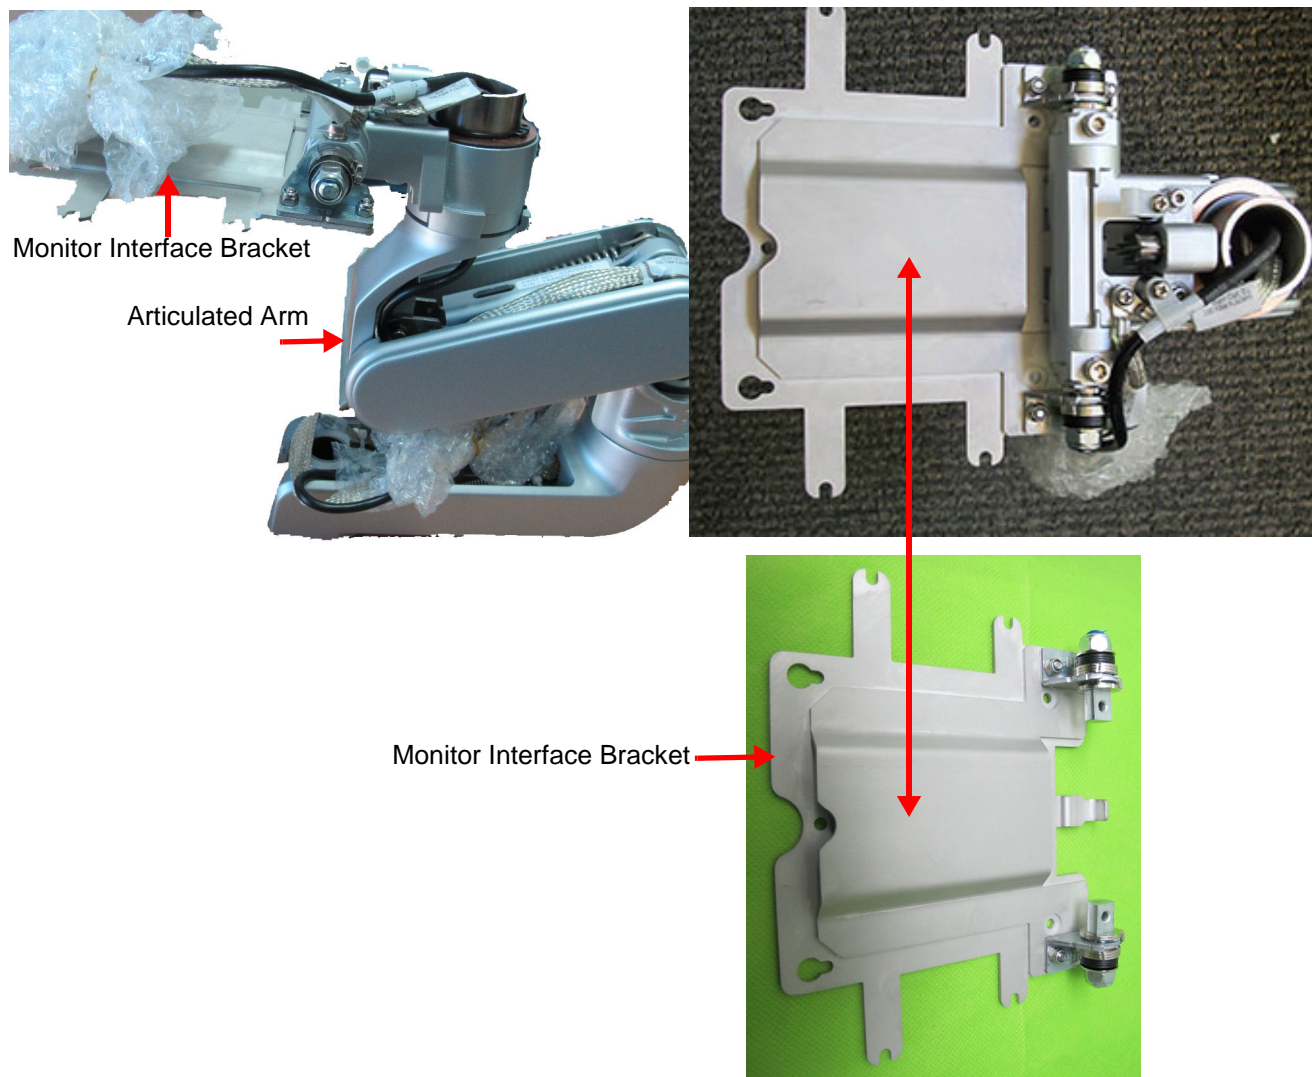

Figure 8-267 Monitor Interface Kit
The Monitor Interface bracket is attached to the Articulated Arm - the context is shown in Figure 8-267.
- 1.) Attach the replacement Monitor Interface bracket (see lower illustration in Figure 8-267 on page 8-215) to the Articulated Arm and secure it with the screws previously removed.